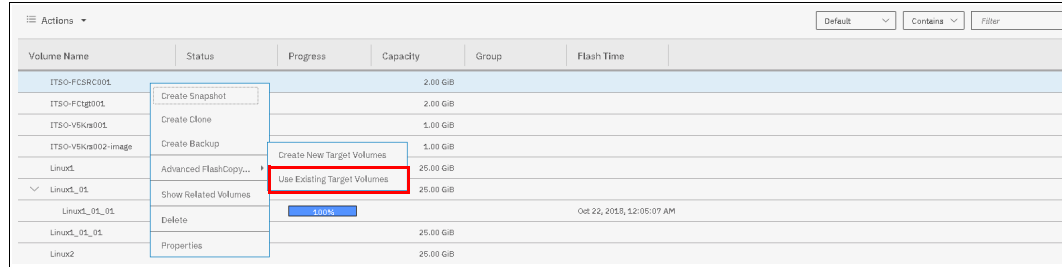

Figure 10-15 Using existing target volumes
1. Select the source volume that you want to use. Then, click **Actions** → **Advanced FlashCopy** → **Use Existing Target Volumes**, as shown in Figure 10-15.